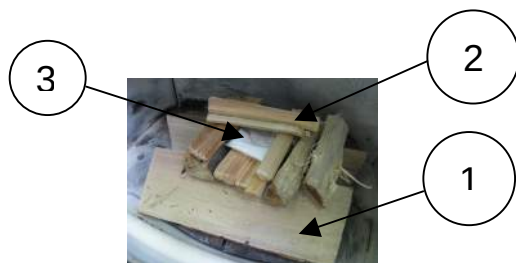

Figure 3: igniting the fire
Put 2-3 logs of wood at the firebox bottom (1) and put the kindling (2) on top. Place a wood lighter aid on top and in the middle of the kindling, light it (see fig. 3) and close the door.